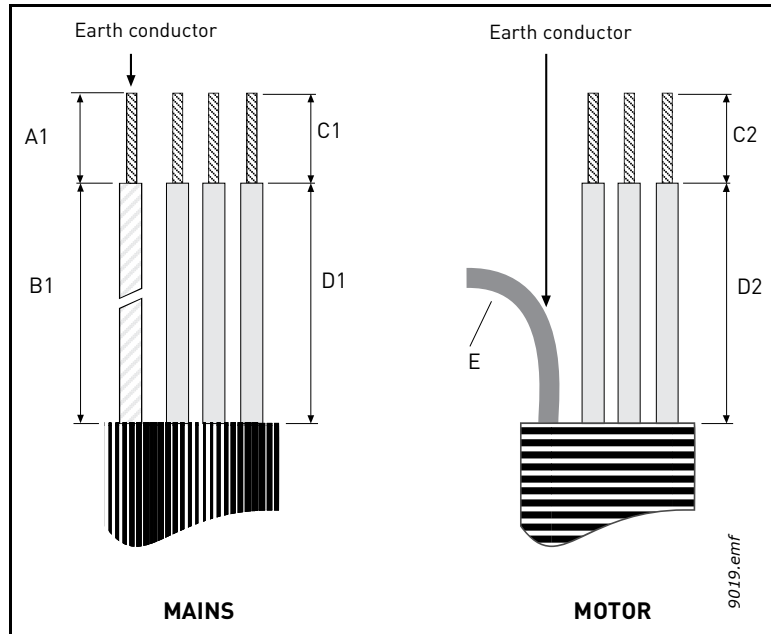
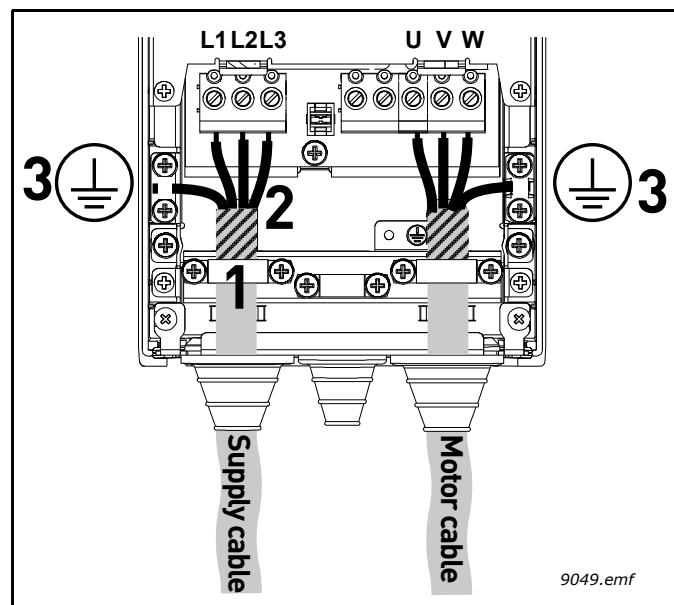

Figure 14. Stripping of cables
Figure 21.
| 7 | <p>Connect the stripped cables (see Figure 14 and Figure 18) as shown in Figure 21.</p> <ul style="list-style-type: none"> <li>• Expose the shield of all three cables in order to make a 360-degree connection with the cable clamp (1).</li> <li>• Connect the (phase) conductors of the supply, brake and motor cables into their respective terminals (2).</li> <li>• Form the rest of the cable shield of all three cables into “pigtails” and make a grounding connection with a clamp as shown in Figure 21 (3). Make the pigtails just long enough to reach and be fixed to the terminal - not longer.</li> </ul> |